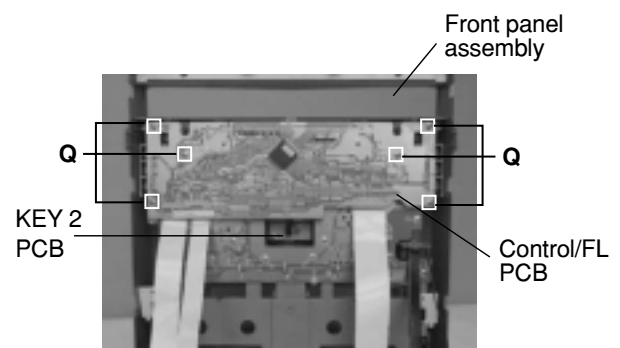

Fig.21
### ■ Removing the control/FL PCB (See Fig.21)
2. Remove six screws **Q** retaining the front panel assembly.(Fig.21)
5. Remove two screws **S** retaining the sound mode and CD function (key 2) switch PCB.(Fig.21)